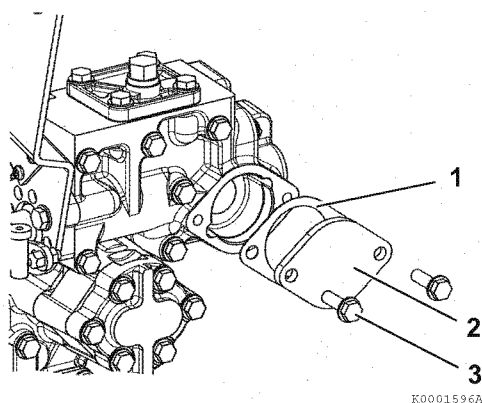

Figure 7-169
1. Remove the PTO cover bolts (3, **Figure 7-169**).
2. Remove the PTO cover (2, **Figure 7-169**) and the gasket (1, **Figure 7-169**). Discard the gasket.